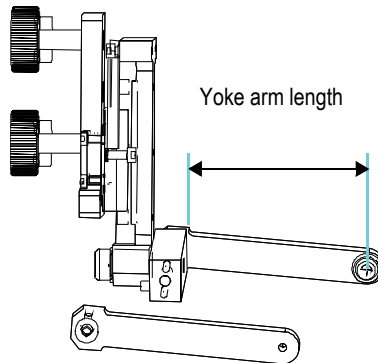
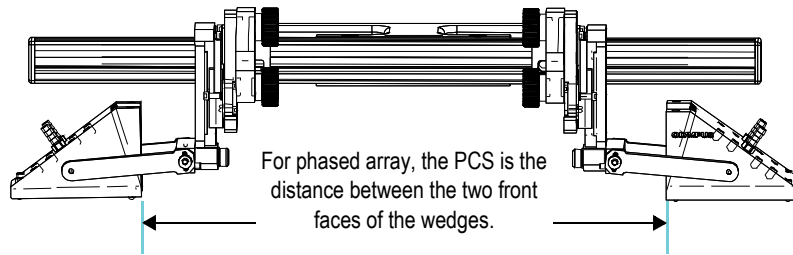

Figure 2-19 WeldROVER—Yoke arm length measurement
Figure 2-20 WeldROVER—PCS measurement for PA wedges
With a pair of PA wedges, the PCS is measured from the face of the wedge to the face of the other wedge (Figure 2-20 on page 51). The yoke-arm length is measured from the pivot button to the yoke's rear member (Figure 2-19 on page 50).
- For yoke arm-length measurement, see Figure 2-19 on page 50.